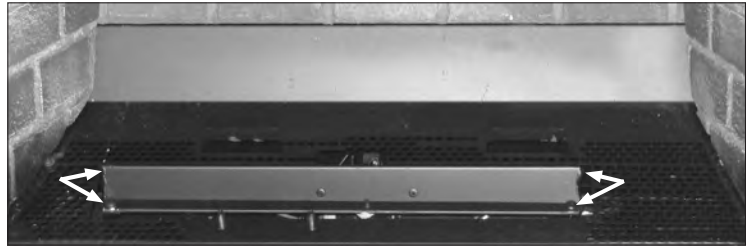

Figure 14: Unfastening Burner.
4. Using a T-20 screwdriver, remove the four (4) screws that hold the burner in place (pointed out in Figure 14). Slide the burner to the left (see Figure 15), then up and out of the firebox.